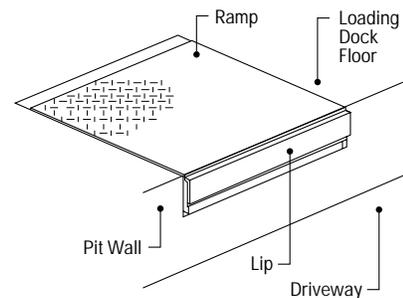

Fig. 28
- A recessed type, installed in a pit formed in the loading platform (Fig. 28).